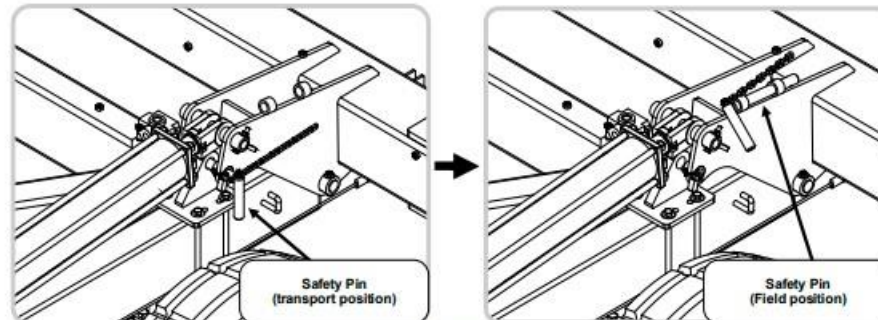

FIGURE 3
6. Remove the main lift safety pin (fig. 3).